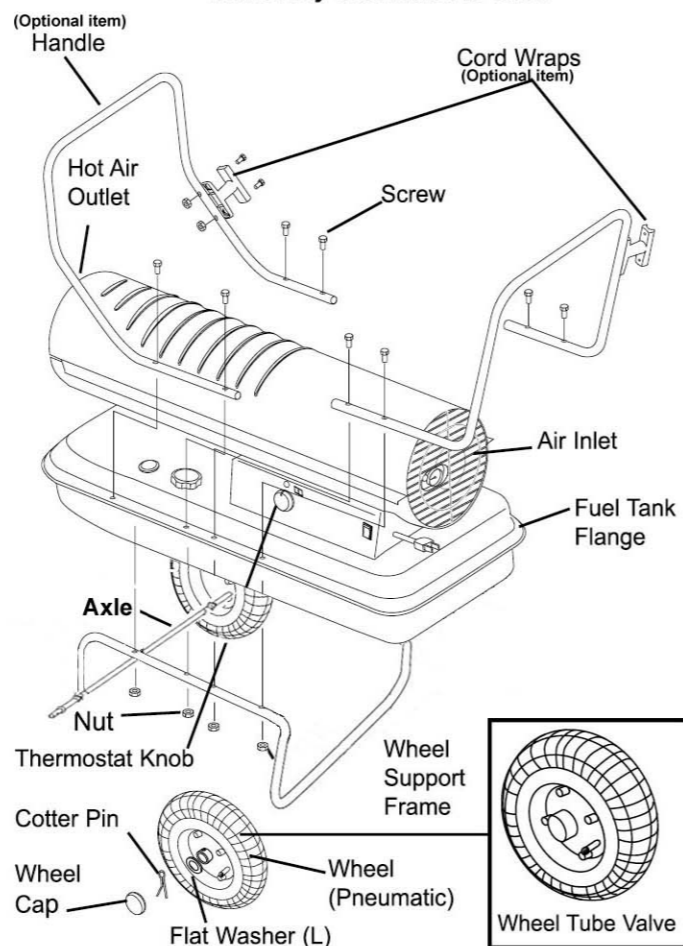

Figure 7. Assembly of Models ZB-K125 / K175 / K215
1. Slide axle through holes in wheel support frame. Slide wheel bushings and flat washer (A) on to each end of axle.
2. Slide wheels on to each axle, being sure that the valve stem (if pneumatic) is to the outside (see **Figure 7**).
3. Slide flat washers (B) onto axle past the small hole. Insert cotter pin in axle hole and bent legs of pin with needle nose pliers to secure.
4. Snap the wheel caps onto the large washers (B).
6. Take the front handle and align the mounting holes with the corresponding holes in the tank flange/wheel frame. Slide a screw (A) through the holes and loosely attach a nut. Repeat for the other 3 holes, then fully tighten all 4 screws and nuts.
1. Align holes in cordwrap with corresponding holes in front handle. Insert screws (B) through holes, attach nuts and tighten (see **Figure 7**).